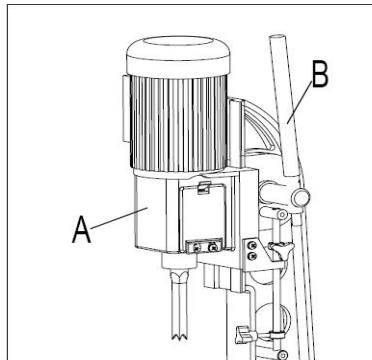

Fig. 4
The head (A) Fig. 4, is raised and lowered by means of the lever (B).